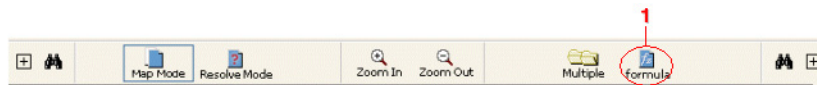

Figure 19-1. Click the **Formula** button in the Transformation screen to launch the Formula Builder applet.
- ❶ Launch the Formula Builder by selecting the mapping that you want to apply a formula to, then click the **Formula** button (see Figure 19-1 below).